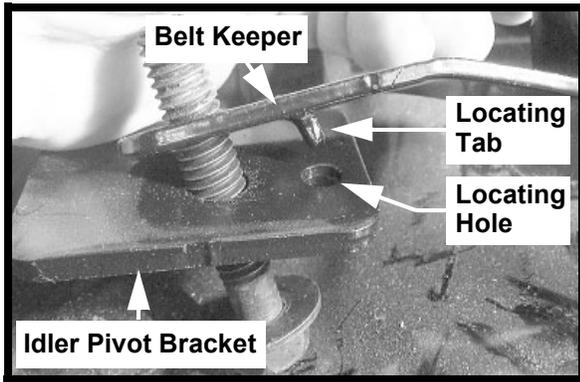

FIGURE 6
16. Make sure the locating tab of the belt keeper is positioned in the locating hole of the Idler Pivot Bracket as shown in Figure 6.